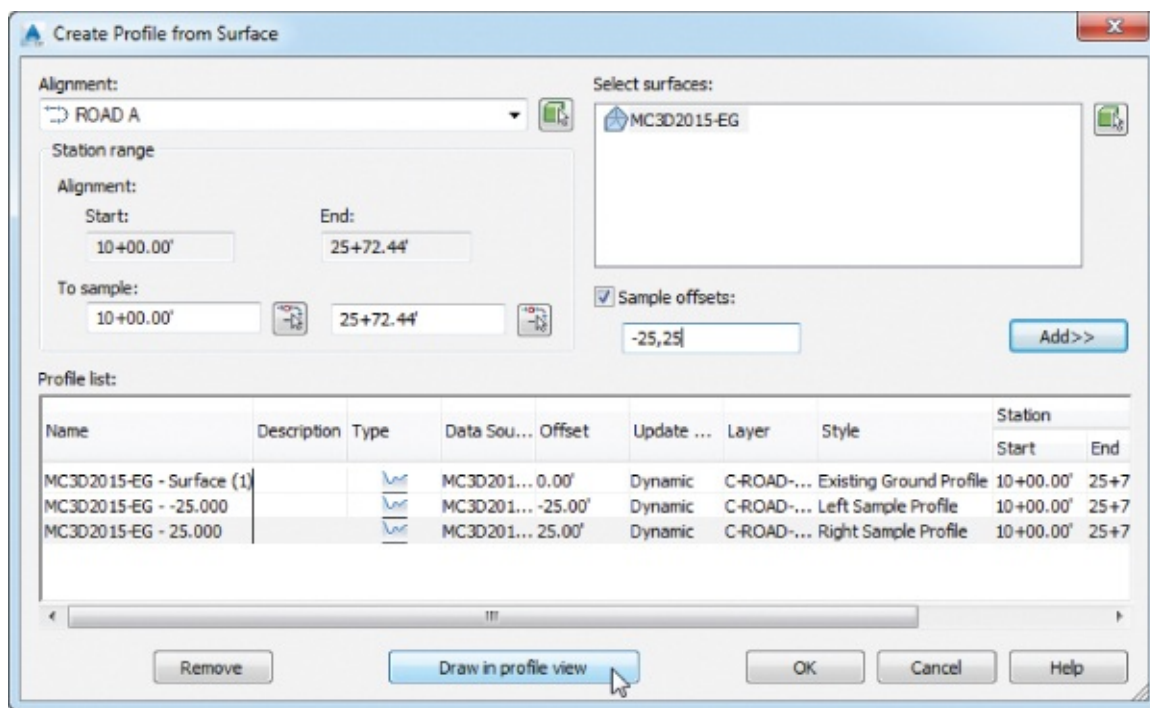

Figure 7.4 The Create Profile From Surface dialog with styles assigned on the basis of the Offset value
8. In the profile list, select the cell in the Style column that corresponds to the negative (left offset) value (see Figure 7.4) to activate the Pick Profile Style dialog. If you need to widen the columns, you can do so by double-clicking the line between the column headings.